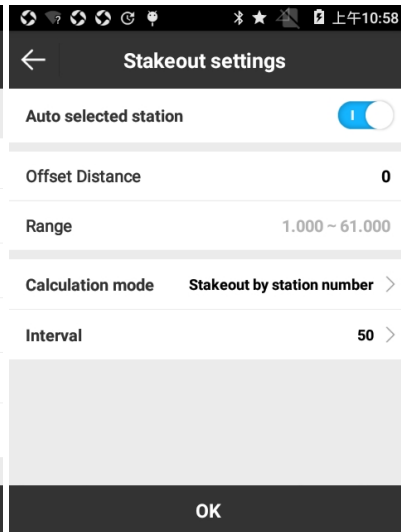
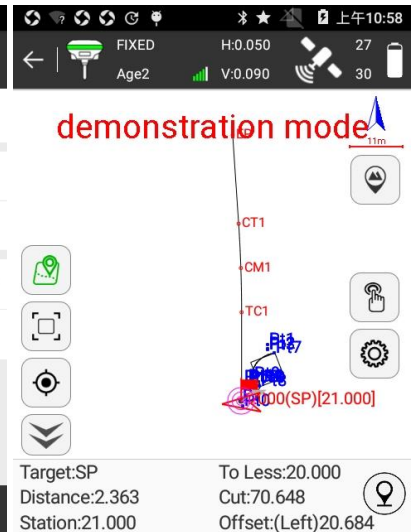

Figure 5.7-4
Figure 5.7-5
2. Select the stakeout road and press [OK] to enter road stakeout interface as shown in Figure 5.7-4. Mileage can be set as needed, that is, when entering stakeout interface, the position of stakeout point. Set stakeout interval, and then perform stake road by points. Press [OK] to enter road stakeout interface as shown in Figure 5.7.5. And according to arrow direction and the prompt of mileage and offset in the bottom status bar, stakeout roads in Road Library at stakeout interval by points. The adjacent stakeout points in the points library can be switched automatically by  $\uparrow$  and  $\downarrow$  keys. Press  $\text{P}$ , input mileage and it will